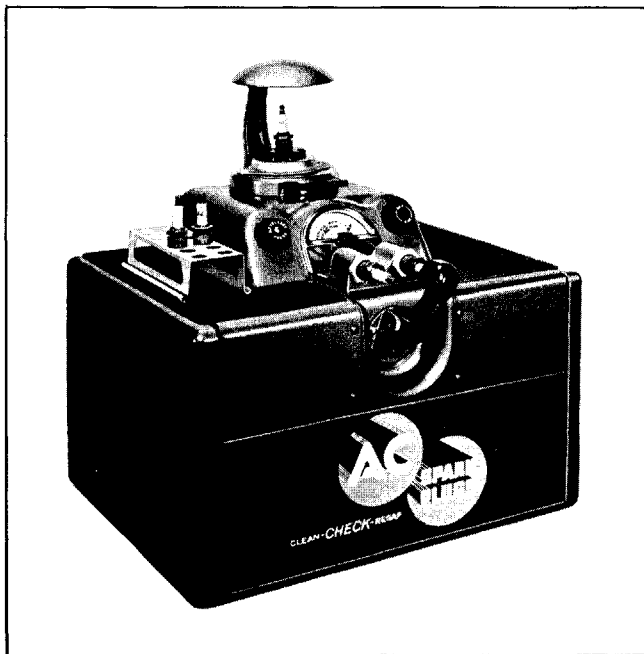

Fig. 12-44 Spark Plug Cleaner and Indicator
1. Dirty—The lower end of the spark plug insulator becomes coated under operation with an oxide deposit. This deposit is a conductor of electricity (especially when heated), and when occurring in sufficient quantity, will cause missing. The deposit may occur at various mileages depending on operating conditions and is usually brown in color, although sometimes it is yellow or white. Plugs with this oxide coating on the lower end are not defective and replacing them is needless. Fouled and dirty or oxide coated plugs can be thoroughly cleaned without injuring the insulator by use of the AC model "A" Spark Plug Cleaner and Indicator (Fig. 12-44) or similar equipment.